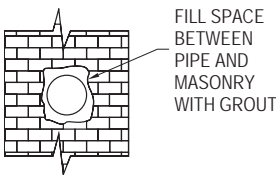

Figure 17
7. Once the horizontal pipe section is in place, the space between the pipe and the masonry may be filled with high temperature grout, as shown in *Figure 17*, if desired.